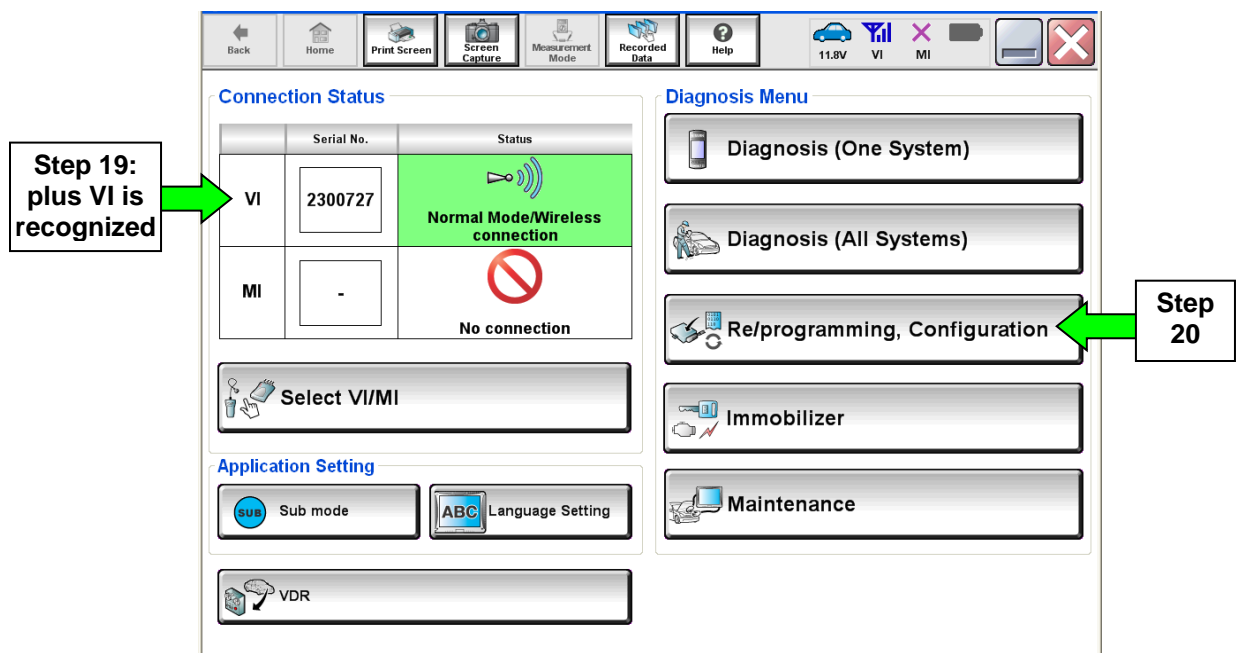

Figure 8
17. Confirm C-III plus is on the Home Screen (see Figure 8).